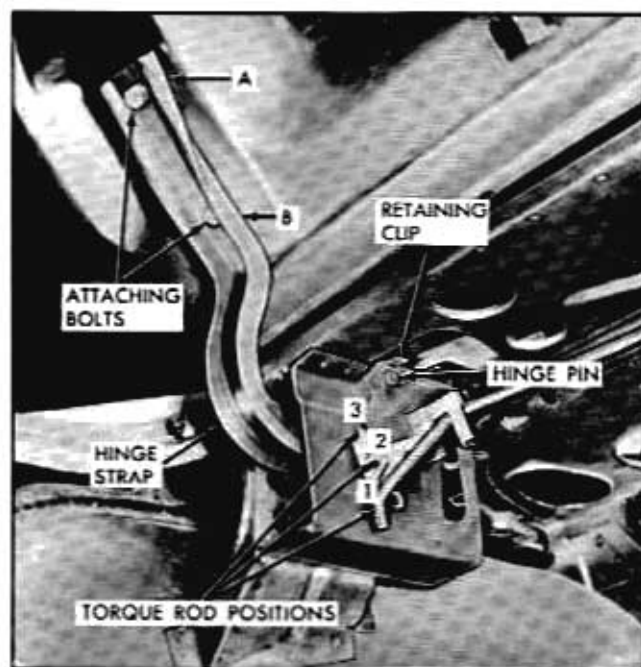

Fig. 4-8 Rear Compartment Hinge and Torque Rod
4. With aid of helper remove lid attaching bolts (Fig. 4-8) and remove rear compartment lid.
- a. To raise front edge of lid at hinge area, place shim between lid inner panel and forward portion of one or both hinge straps at B (Fig. 4-8).
- b. To lower front edge of lid at hinge area, place shim between lid inner panel and rearward portion of one or both hinge straps at A (Fig. 4-8).
4. With a suitable tool disengage torque rod from notched retainer on inboard face of opposite hinge box (Fig. 4-8).
6. Bend up hinge pin retaining tab on inboard face of hinge box (Fig. 4-8); remove hinge pin and then remove hinge from box.
The amount of effort required to open and close the rear compartment lid is determined by the position of the torque rods in the notches on the inboard face of the hinge boxes. If the torque rod is located in the lowest or rearward notch (position 1), the amount of effort required to open the lid is the greatest and the amount of effort required to close the lid is the least. If the torque rod is located in the top or most forward notch (position 3) the amount of effort to open the lid is the least and the amount of effort to close the lid is the greatest. See Fig. 4-8.